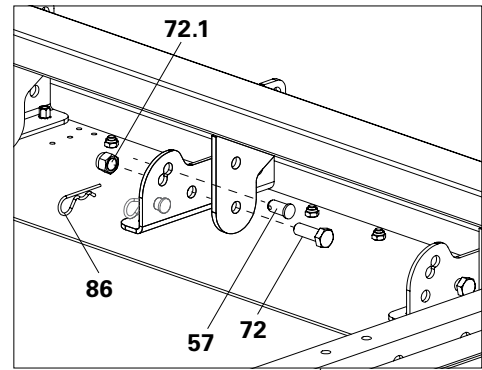
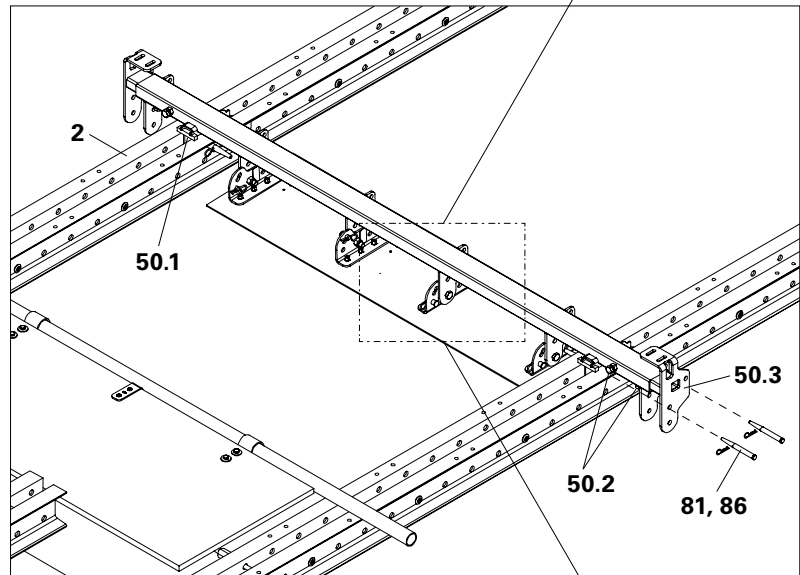

Fig. C1.18a
Fig. C1.18
2. Attach finishing platform to the Telescope Beam (50) that is still turnable using Bolts ISO 4017 M16x40 (72) and Nuts (72.1).
3. Insert Bolt \varnothing 16x36 (57) with Cotter Pin (86) into the 45° hole of the Support Angle, thereby preparing the finishing platform for transport. (Fig. C1.18a + C1.18b)
5. Insert the Telescope Beam (50) with the suspensions (50.1) into the Climbing Rails (2). The clamping screws (50.2) of the telescopic tubes point upwards and inwards.
6. Secure suspensions with 2x Fitting Pins \varnothing 21x120 (81) and Cotter Pins (86) respectively.
7. Completely insert telescopic tubes (50.3) and secure them with clamping screws. (Fig. C1.18)